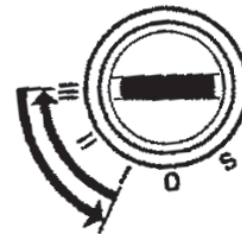

Figure A4: Ignition Switch START Position
9. After 20 seconds, turn key switch to START position and hold until engine starts. DO NOT hold in START position for more than ten seconds. See Figure A4. **Note:** If one of the designated engine batteries fails to start its respective engine, engage the "EMERGENCY START" switch at the helm and attempt to start the engine.